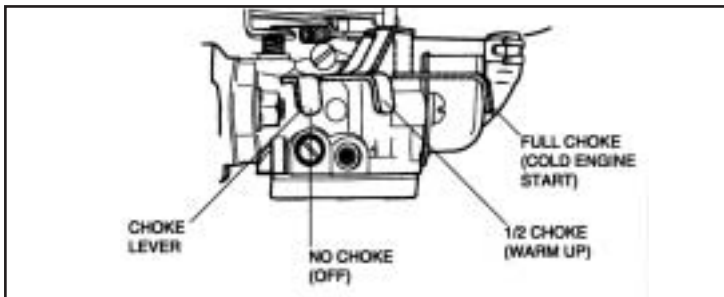

Figure 5
- A. Move CHOKE LEVER (if so equipped, see Figure 5) to “FULL CHOKE”.